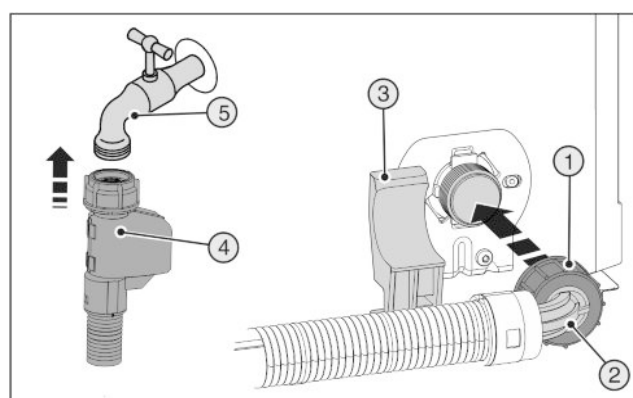

Fig. 21
- Connect the straight end of the hose Fig. 21 (4) to the stopcock Fig. 21 (5).